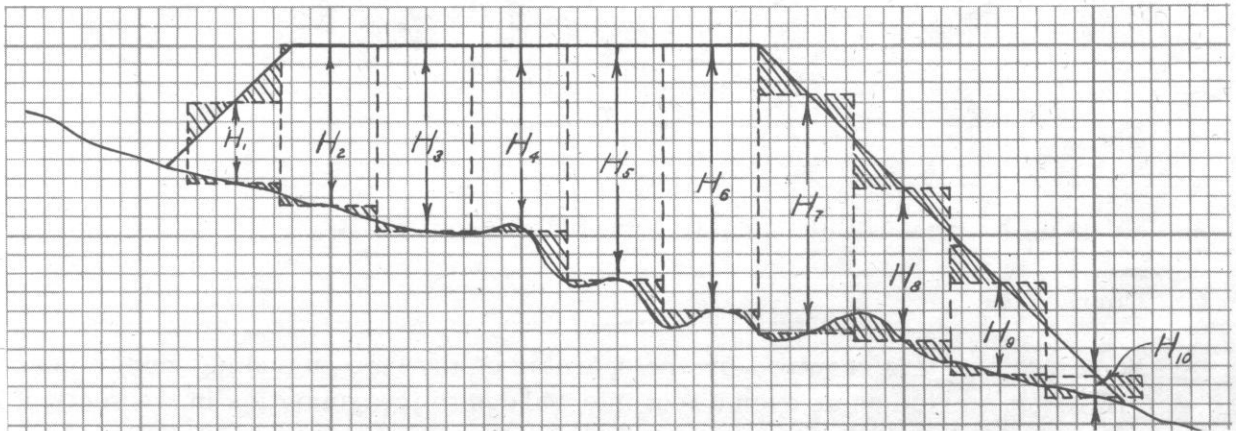

Fig. 5 — Scale 1" = 10'. Area of Fig. 5 using full "H" values — 425 sq. ft.
- If the operator of the rule prefers to think in terms of rectangles he should sketch these in on several irregular sections to become familiar with the necessary corrections and to gain confidence in using the rule. Fig. 5 shows rectangles sketched in on the same section used in Fig. 4.